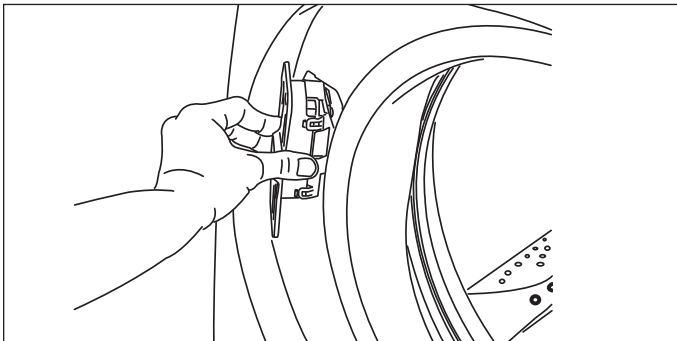

Figure 2-28.
3. Insert the harness connection through the front panel first, and then pivot the lock until it is flush. Slide the lock toward the center of the front panel until the screw holes line up. (See Figure 2-28)